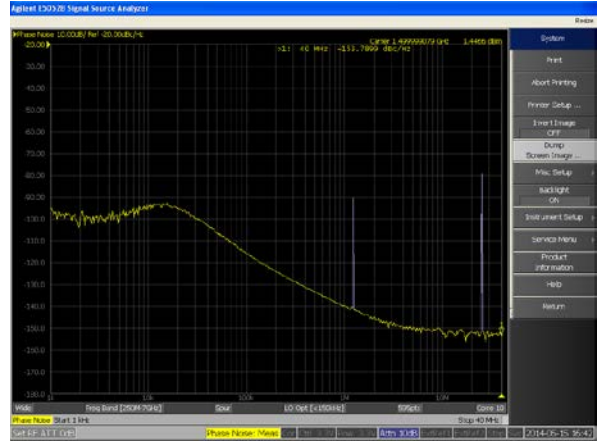

Figure 7. Signal Source Analyzer Display
11. Measure the output spectrum. Figure 7 shows the signal source analyzer operating in phase noise mode, taken at a frequency of 1.5 GHz output.